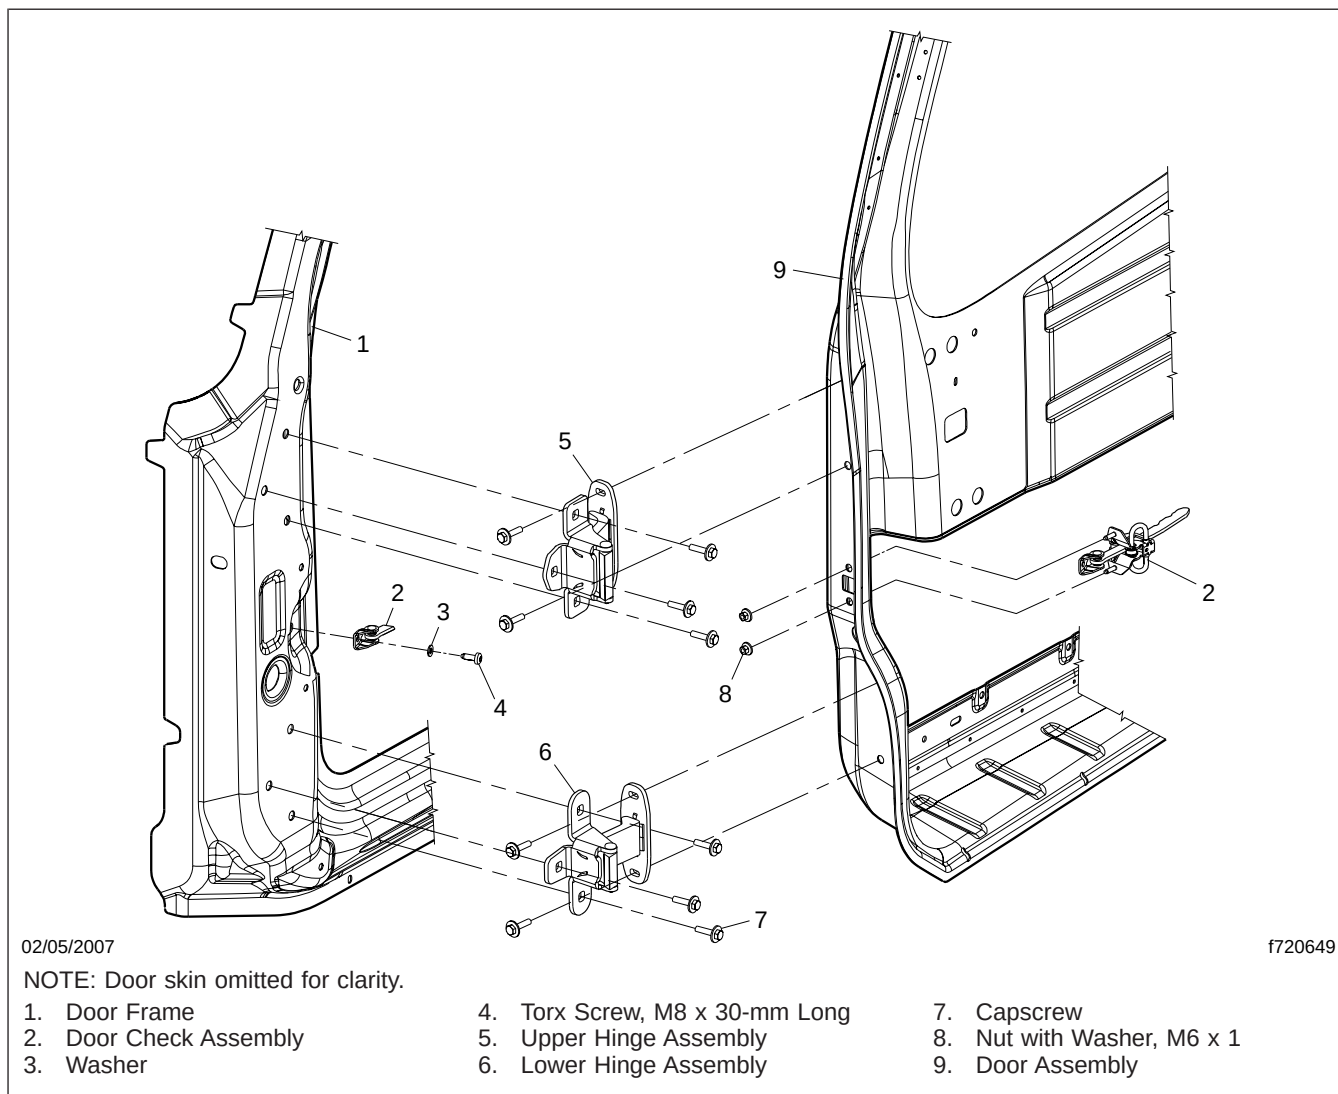

Fig. 4, Door Hinge and Door Check Installation
2. Install the hinge fasteners; see Fig. 4. Tighten the capscrews 15 to 18 lbf·ft (20 to 24 N·m).